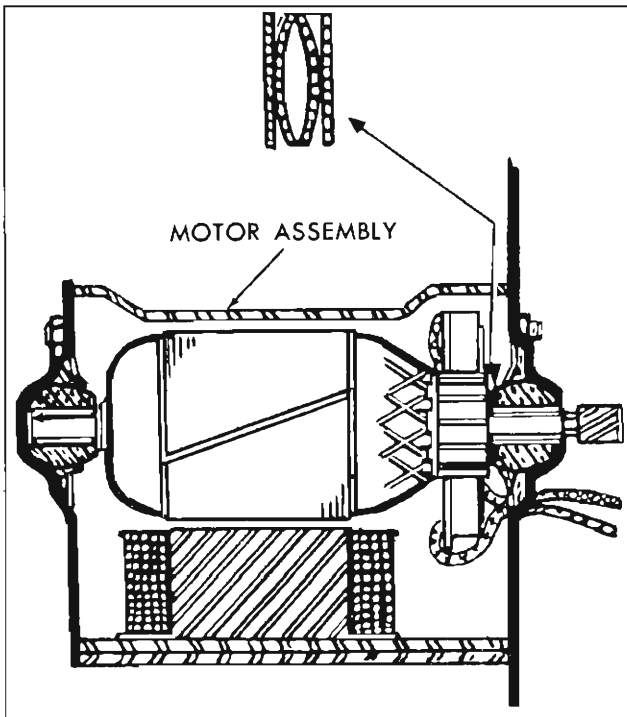

Fig. 54—End Play Wave Washer Installation
**NOTE:** Armature end play is controlled by end play washers. See Figure 54 for proper assembly of end play washers. Lubricate armature shaft bushings with light machine oil.